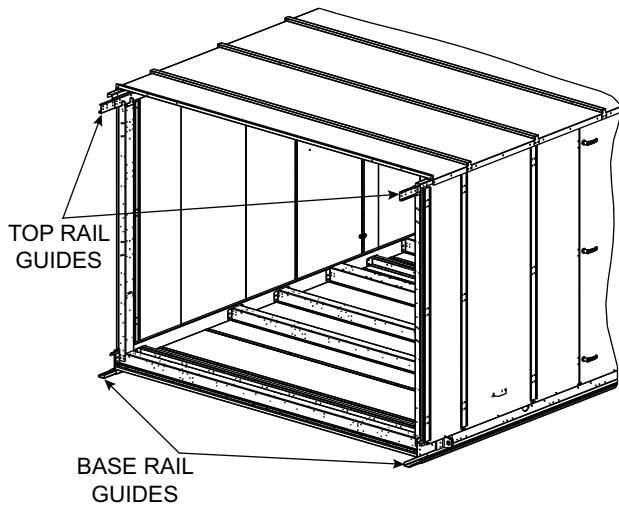

Fig. 56 — Base and Top Rail Guide Locations
4. Insert base rail guides into the base rails of the main unit section. Do not attach with screws yet. See Fig. 56 and 57.
5. Insert top rail guides into top rails of the main unit section. Do not attach with screws yet. See Fig. 56 and 58.